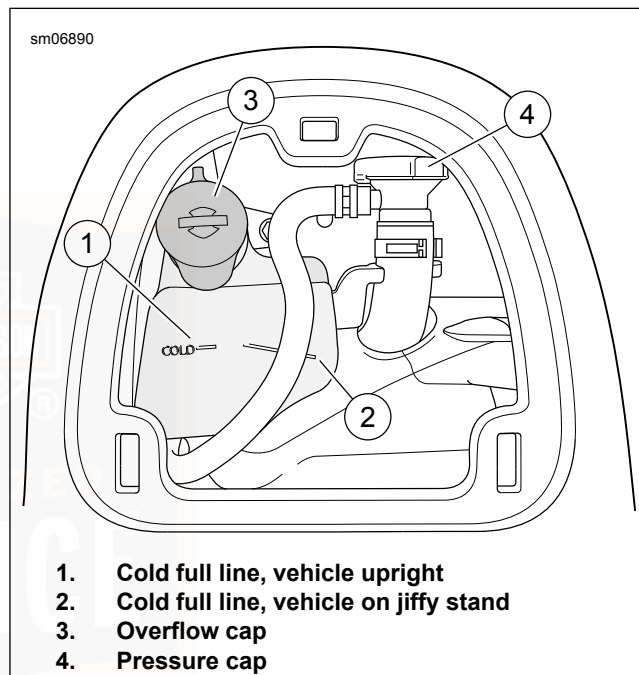

Figure 80. Coolant Level
See Figure 80. The coolant bottle has two lines. Use the angled line (2) when the motorcycle is leaning on the jiffy stand.
2. See Figure 80. Check that coolant level in coolant bottle is at or slightly above the "COLD" line (1).